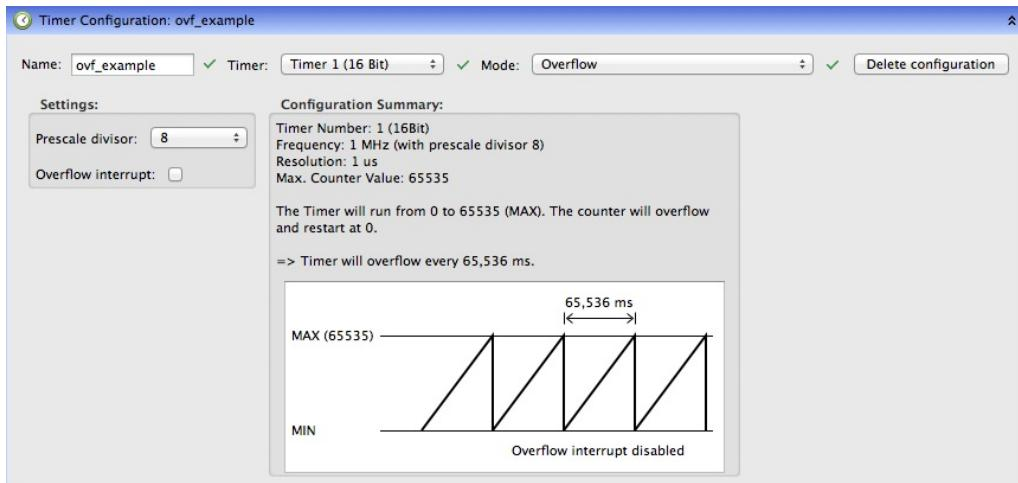

Figure 4.17: Detail view (*Overflow* mode)
**Overflow mode** In Overflow mode, the timer repeatedly runs from 0 to MAX (8 Bit: 255, 16 Bit: 65535) and restarts. The overrun frequency can only be influenced by prescaling. Overflow interrupts can be enabled in the editor. Figure 4.17 shows an example overflow mode configuration for timer 1 (16 Bit). Prescaling is set to 8 and overflow interrupts are disabled. If you need these notifications, please enable the *Overflow interrupt* checkbox.